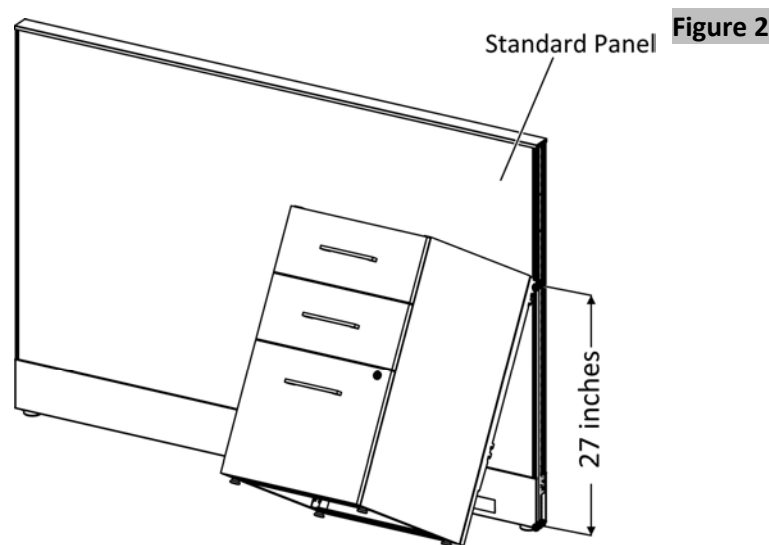

Figure 2
4. Insert storage standard panel mount bracket by angling the pedestal at 30 degrees; place the support hook into the slotted frame channel, release it down and the support will be engaged, (Figure 2).